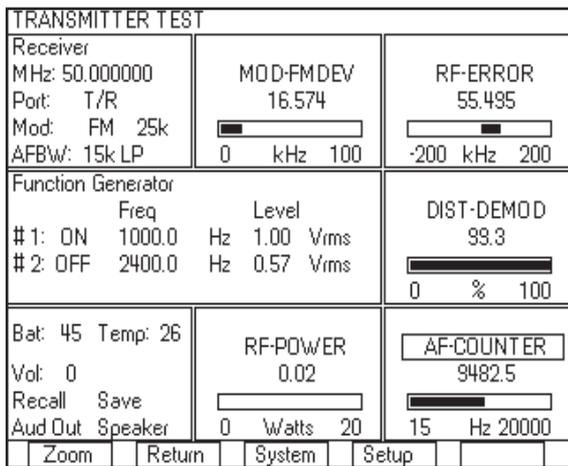

Figure 11 - TRANSMITTER TEST screen
21. Now the TRANSMITTER TEST screen should look like Figure 11.